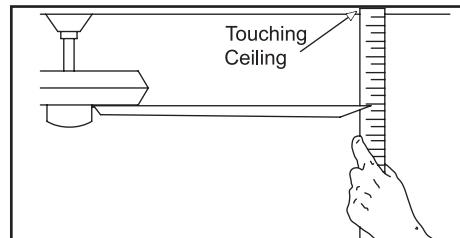

Figure 12
2. Most fan wobble problems are caused when blade levels are unequal. Check this level by selecting a point on the ceiling above the tip of one of the blades. Measure from a point on the center of each blade to the point on the ceiling. Measure this distance as shown in Figure 12. Rotate the fan until the next blade is positioned for measurement. Repeat for each blade. Measurements deviation should be within $1/8"$. Run the fan for 10 minutes.